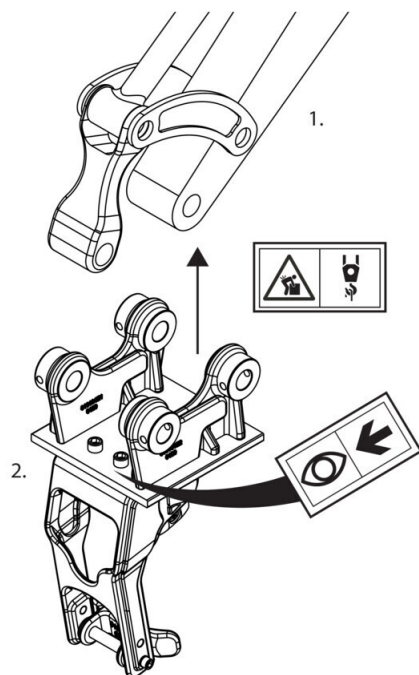

Fig. 15
Using suitable lifting equipment raise item 2., in the direction shown, over item 1. **Fig.15** Align holes and temporarily secure.